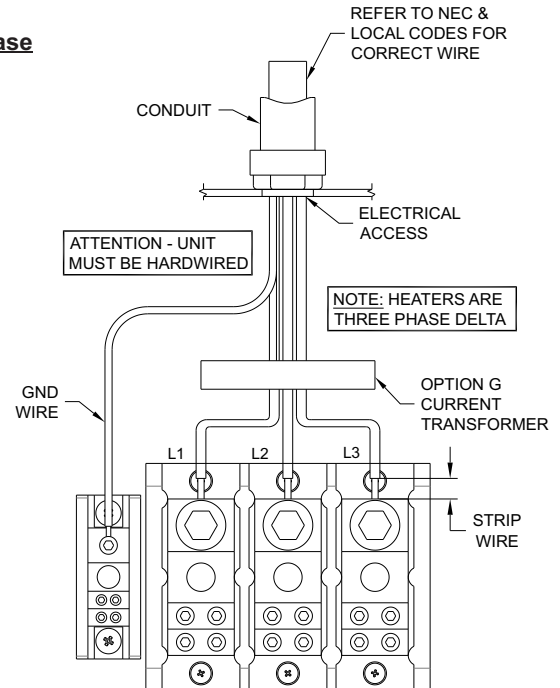

FIGURE 2 - WIRING CONNECTION
7. If no leaks, proceed to Electrical Installation Section and Figure 2.
1. Connect power supply wires appropriately sized and protected by a three pole circuit breaker to the input terminals on the heater (hard wired) as shown in the Figure 2 wiring diagrams below. Refer to Table 1 above on Page 2 for the voltage, amp and phase ratings of the supply power. Use 3 wires plus ground for 3 phase heaters.
6. Install cover. Install the (4) cover mounting screws. Turn on circuit breaker. Unit is now ready for use.
8. Temperature adjustment potentiometer is standard equipment on (L) Low Activation and (S) Standard Activation models.